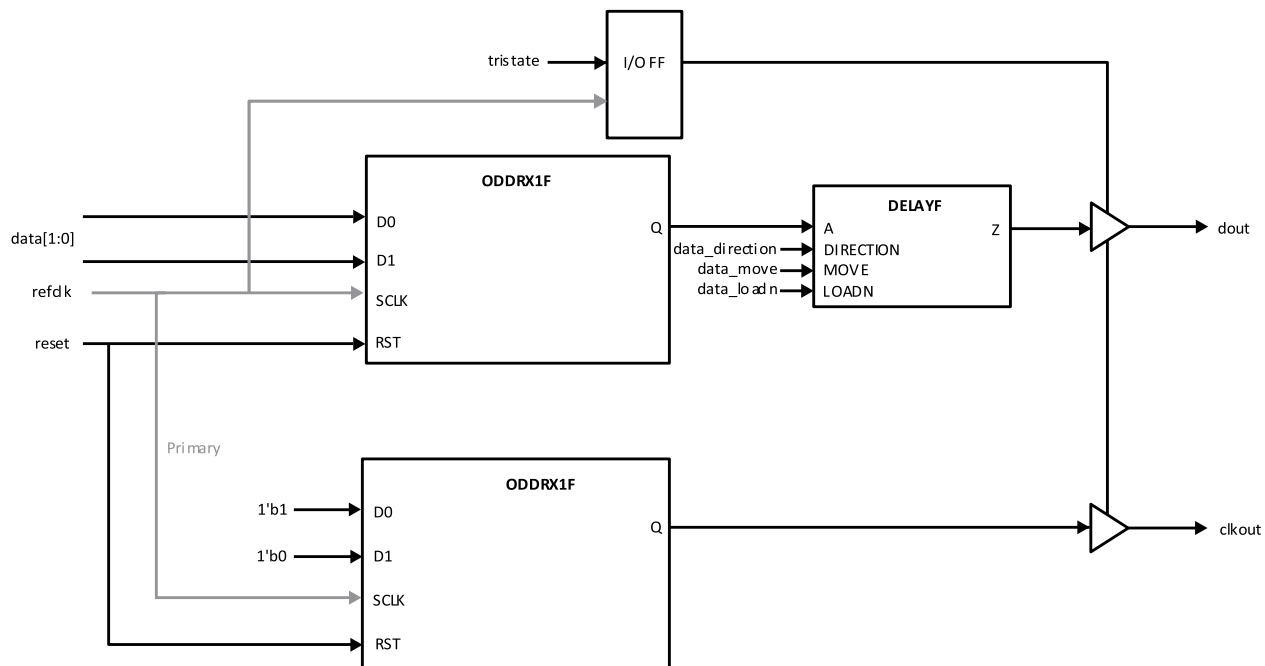

Figure 5.19. GDDR1_TX.SCLK.Aligned Interface (with Registered Tristate and Optional Dynamic Data Delay)
- The DELAYG or DELAYF element to delay the output data before sending out to the I/O pad. DELAYG is used with a static delay, DELAYF is used with dynamic delay. This is not shown in the following diagrams but the implementation is similar to Figure 5.19.